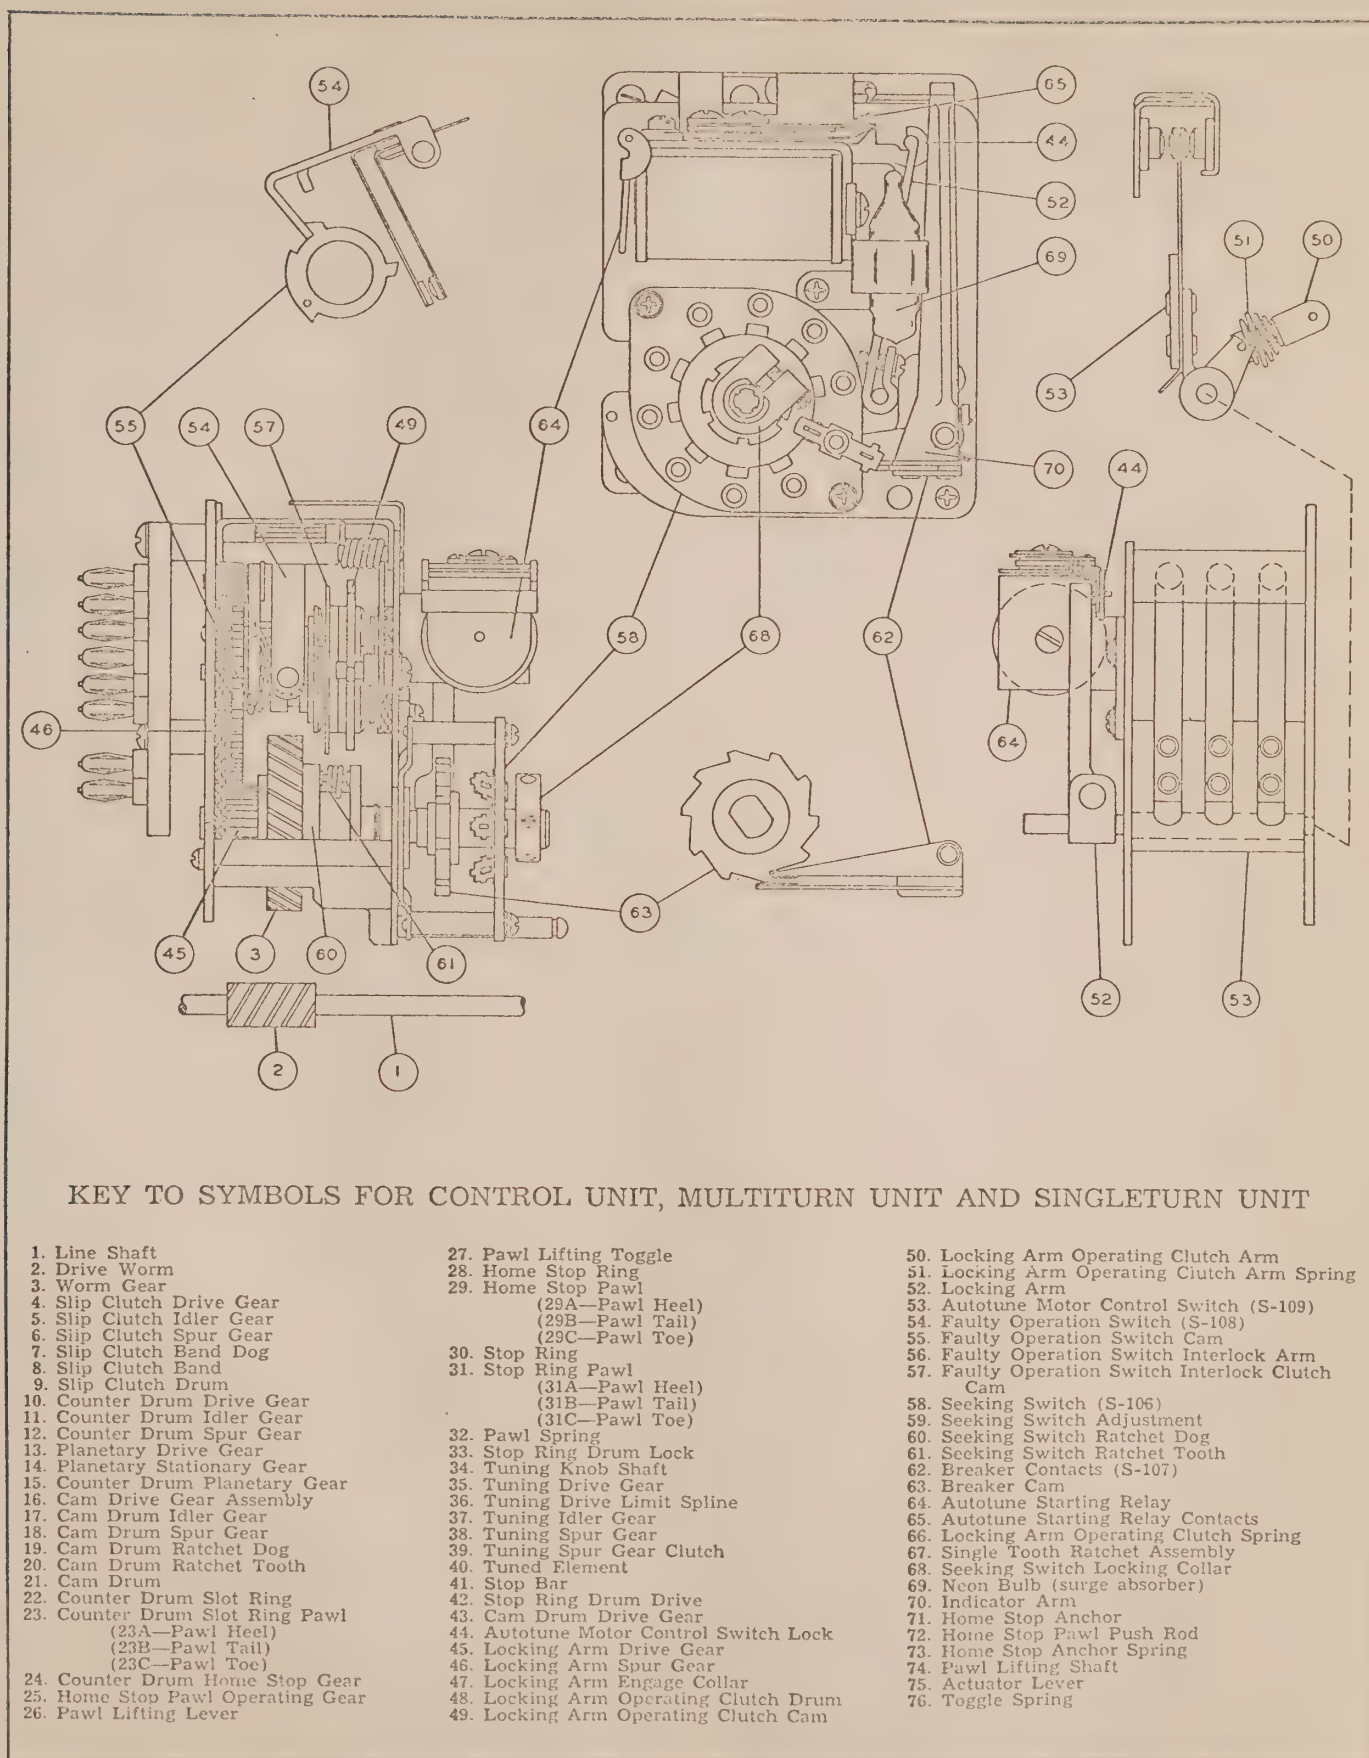

Figure 4-1. Autotune Control Unit Functional Diagram
(2) CONTROL UNIT. (See figure 4-1.)
Note—Key to symbols may be found in Figure 4-1.